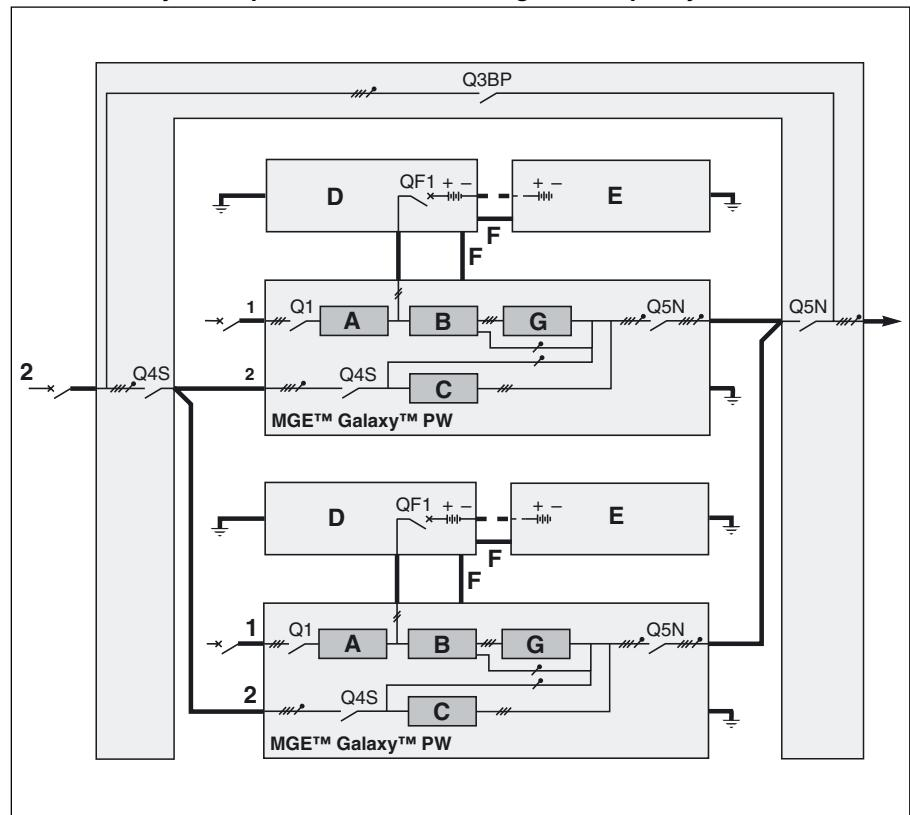

Fig. 10
► see figure 10 for a two parallel